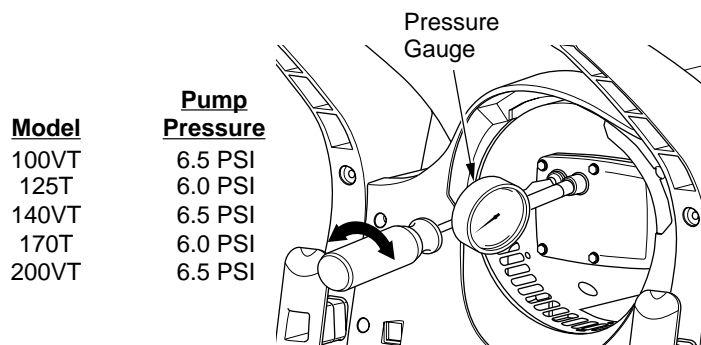

Figure 11 - Adjusting Pump Pressure
6. Adjust pressure. Turn relief valve to right to increase pressure. Turn relief valve to left to decrease pressure. See specifications below for correct pressure (see Figure 11).